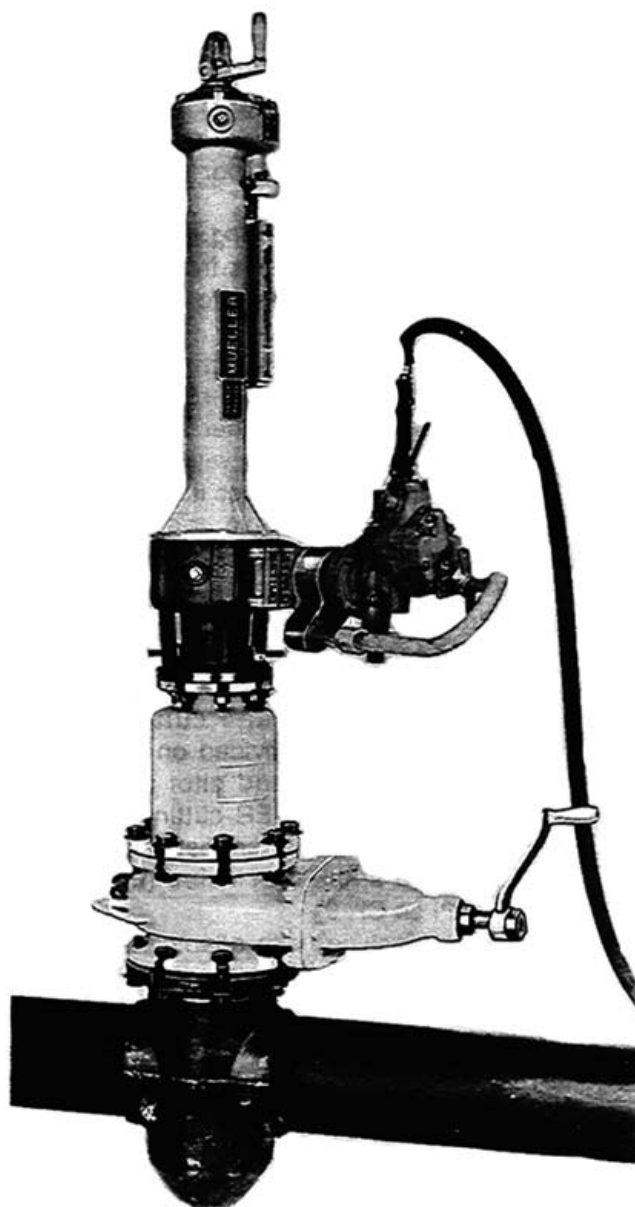

FIGURE 13
7. Place the machine (with adapter and drilling equipment assembled) in drilling position on gate valve and bolt adapter solidly to valve flange. **Fig. 13.** Check to be sure that the gasket is in good condition and in place.